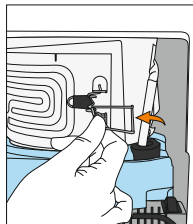

Figure 36
5. Approach the cooler from the rear and open the latch provided on the evaporator band. (Figure 36)